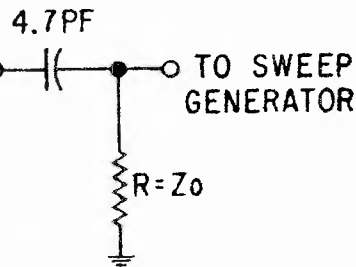

Figure 5.—Terminating Network
3. Connect R.F. sweep signal (and marker if built into Sweep Generator) in series with a terminating network (See Figure 5) to the R.F. Test Point on the VHF tuner (See Figure 9).